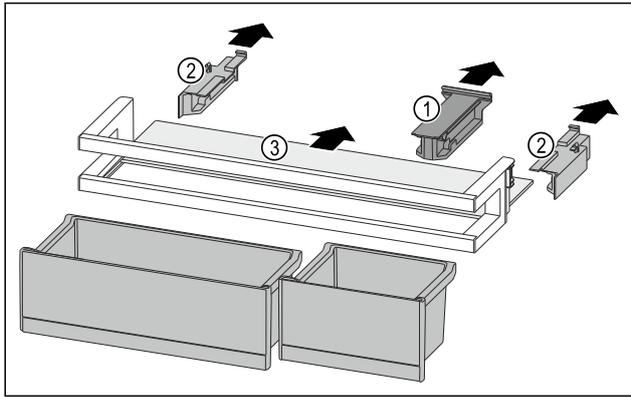

Fig. 90
- ▶ Pull off the holding part Fig. 90 (1).
- ▶ Pull off the side parts Fig. 90 (2).
- ▶ Remove the shelf Fig. 90 (3).